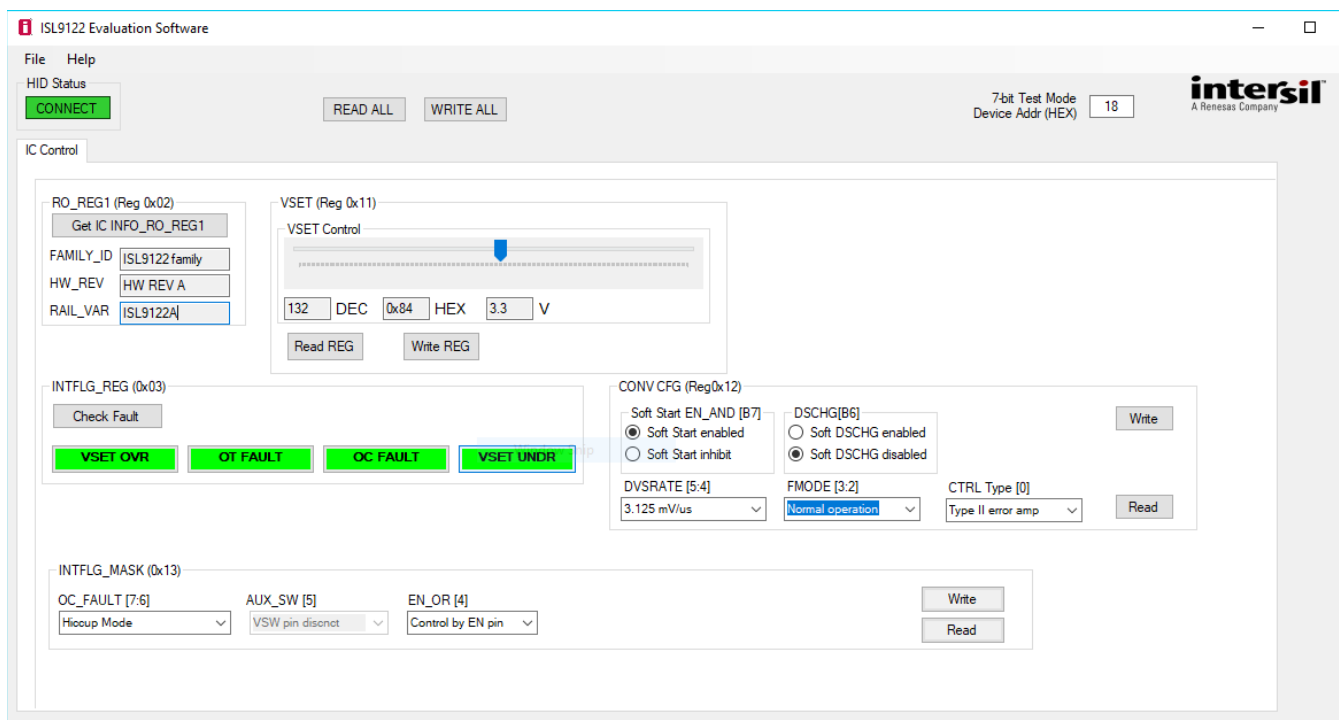

Figure 3. ISL9122 Evaluation Software Window
6. When launched, the ISL9122 evaluation software detects the USB - I2C interface, and the **CONNECT** button turns green (see Figure 3). If a connection is not established, this button is brown. Select this button once to
11. Register **INTFLG\_REG** (Address: 0x03) contains the fault flags. The background color changes from green to red: when (1) a fault occurs from the list in Table 3, and (2) this register is read using either the **Check Fault** button or the **READ ALL** button. Each bit is set by a fault event and cleared when read. When the bit is cleared after reading, the background color changes from red back to green.